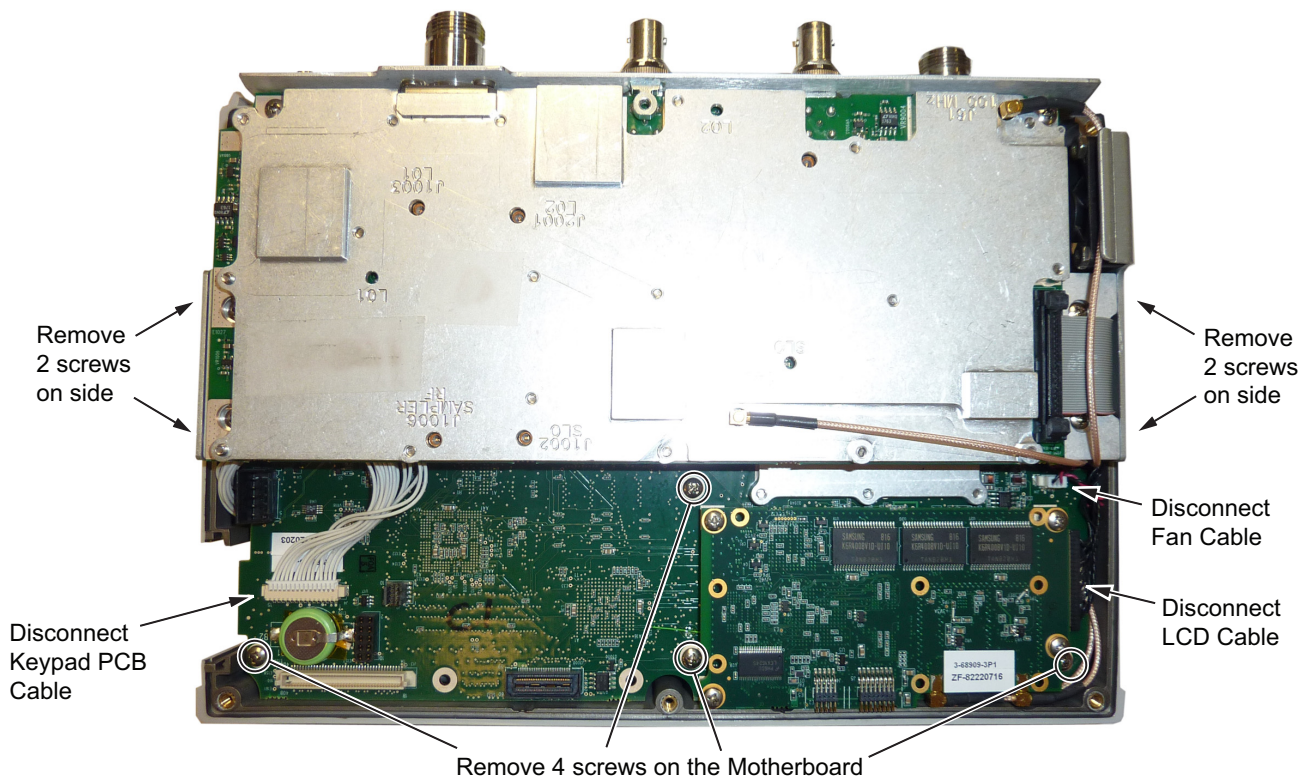

Figure 5-4. Removing the PCB Assembly out of the Case
3. Use a Phillips screwdriver to remove the 8 screws securing the assemblies to the case (Figure 5-4).
Note The MMCX cable attached to SPA connector J61 (100 MHz) is shown passing above the SPA PCB ribbon cable. It must be routed under the ribbon cable, not as shown in Figure 5-4.